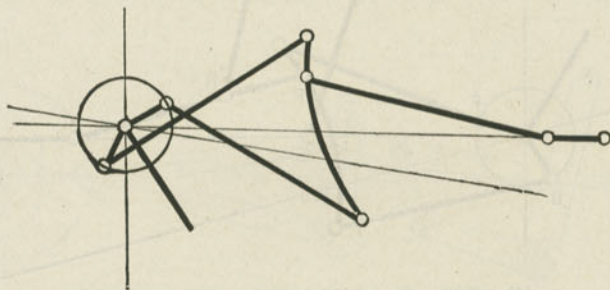

Fig. 289. Gooch Valve Gear, Crossed Rods.
A. Yes; they are so shown in Fig. 289 (in which the hangers of both the link and the radius rod are omitted).